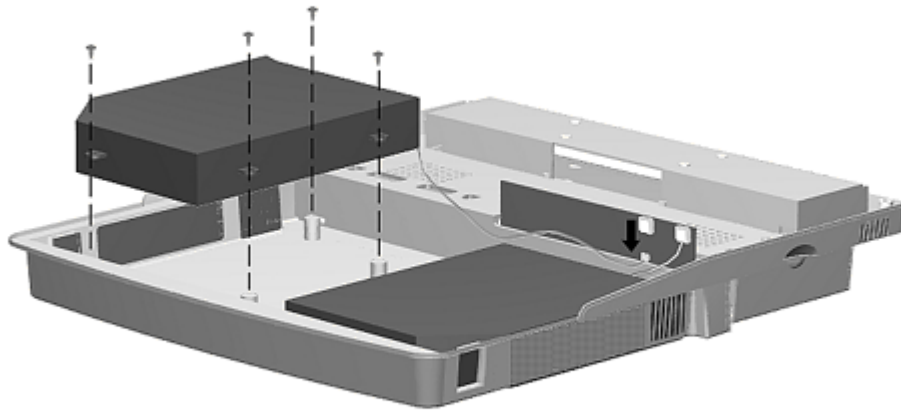

Figure 7-31. Removing the Speaker Assemblies
3. Note the cable routing and disconnect the speaker cables from the connector board (Figure 7-31).
4. Remove the four screws from the speaker mounting brackets and lift the speaker out of the bottom cover assembly (Figure 7-31).